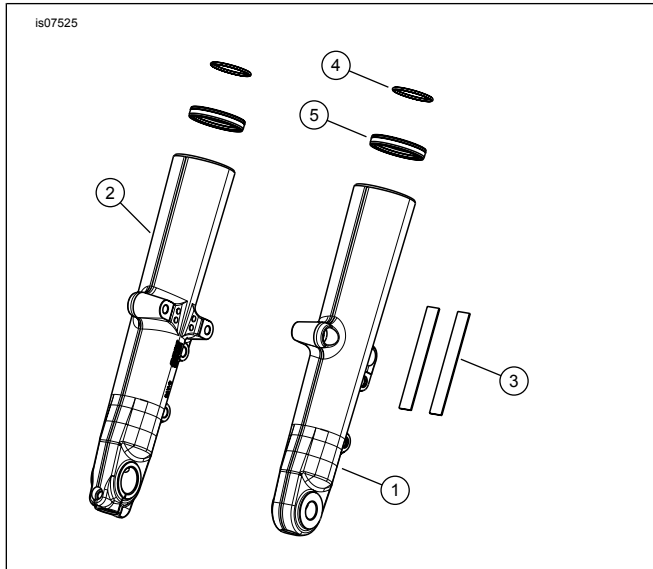

Figure 2. Service Parts: Chrome/Black Fork Sliders
See Figure 2 and Table 1.
- a. Replace the original fork sliders with the **new** chrome or black sliders (see Figure 2, items 1 and 2) from the kits.
- b. Replace the original slider oil seal on each side with a **new** slider oil seal (5) from the kit.
3. Install two **new** O-rings (4) on the fork tube plugs from the kit.
7. Peel the liner from **one side** of the foam double-sided tape (see Figure 2, item 7). Position the tape to the back of the reflector. Press firmly into place. Repeat for the remaining reflector.